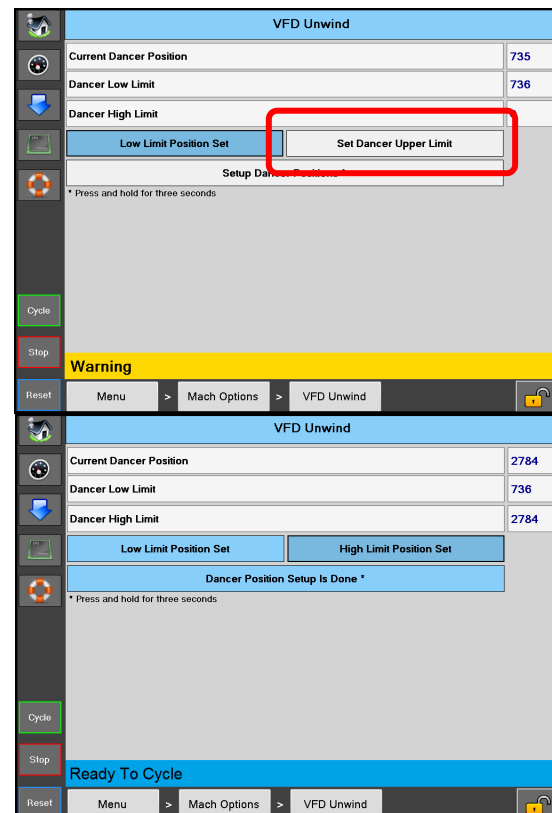

Figure 4-9D. Upper Limit Screens.
2. Press "Set Dancer Upper Limit" Pushbutton. The pushbutton will change state. Remove spacer. Figure 4-9D.